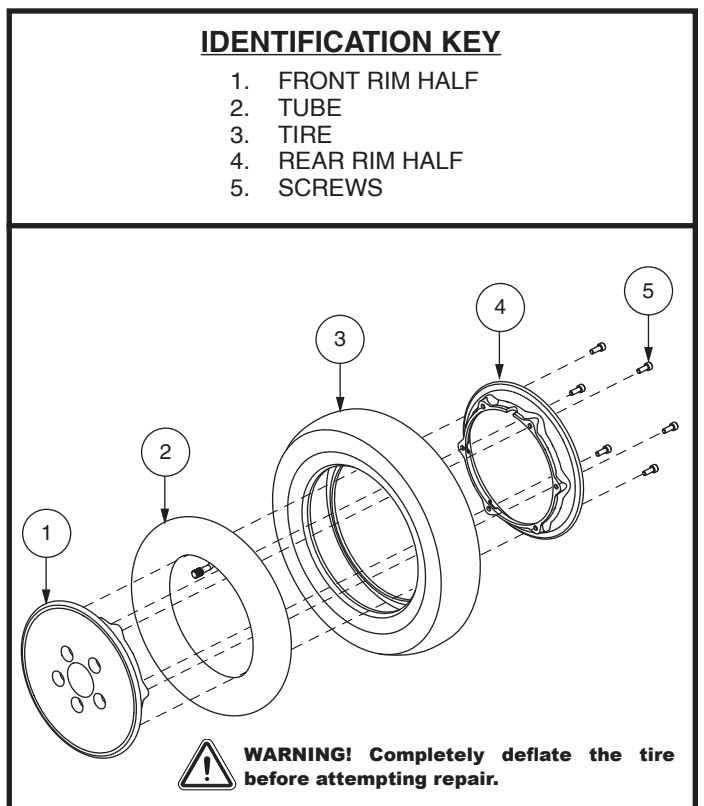

Figure 21. Pneumatic Drive Wheel Disassembly/Assembly
6. Remove the screws and separate the rim halves. **See figure 21.**